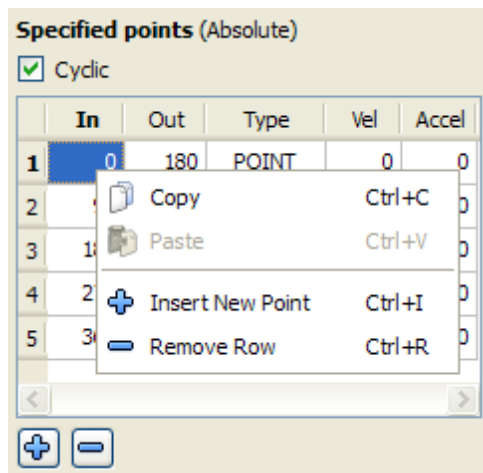

Figure 7-8: Cam Table Contextual Menu
- Use the menu in the cam table (shown in "Figure 7-8: Cam Table Contextual Menu " on page 411)